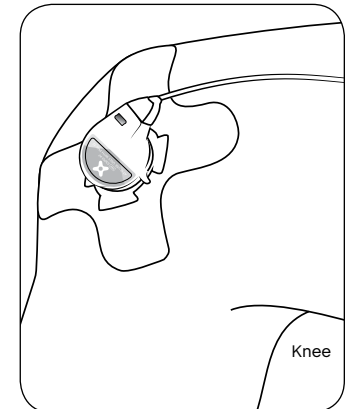

figure 10B: Adhere Bandage to Site
- B. Turn the bandage over and adhere the bandage to the desired treatment location (Figure 10B).